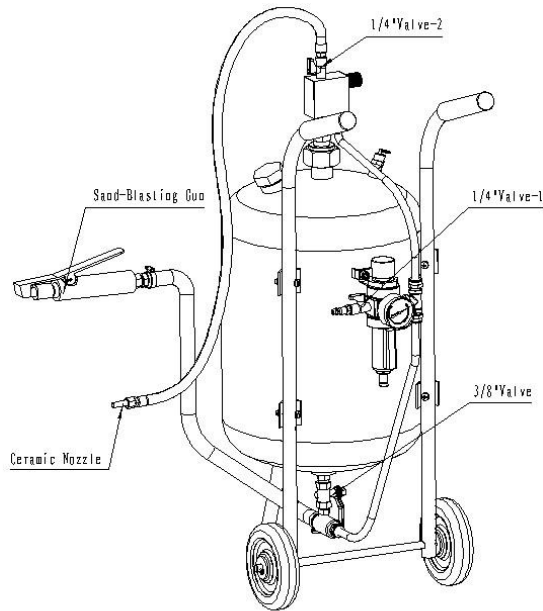

Figure 3
7. For safety, if the soda blaster will be not used at this time, shut off the air supply, turn the 1/4" Valve-1 (Figure 3) to its vertical position, and detach the air supply hose. Slowly reopen the 1/4" Valve-1 to release the trapped air pressure from storage tank. Close the 1/4" Valve-1 (Figure 3)、 the 1/4" Valve-2 (Figure 3) and the 3/8" Valve (Figure 3) to prevent moisture from being drawn into the tank.
13. Always keep the proper air pressure during operation. Please stop operation and stop the connection between the machine and air source, then release pressure from the tank if the safety valve (40) does not release while the pressure is 125psi.
3. The finished product is shown in Figure 3.
1. Attach the male coupler from the compressor to the Male Coupler (30), start compressor and open the 1/4" Valve-1 (Figure 3).
2. When the pressure is around 100 psi, Press and hold Sand-blasting Gun (11) until air is flowing through the gun.
3. With the Sand-blasting Gun open, slowly open the 3/8" Valve (Figure 3) until abrasive material begins to flow out of the Sand-blasting Gun.
4. Adjust the 3/8" Valve (Figure 3) until the desired amount of abrasive material is flowing through Sand-blasting Gun.
1. Pressing and holding the Sand-blasting Gun and turn off the 3/8" Valve (Figure 3)
1. Connect air compressor to the Male Coupler (30).
2. Start compressor and open 1/4" Valve-1 (Figure 3).
3. Turn on the 1/4" Valve-2 (Figure 3) to release the media when the pressure to exceed 100 psi.
4. Picked up the Soda Media Nozzle shown Figure 3, towards the sandblasting parts, you can adjust Media Flow Control Knob to increase or decrease the media flow rate. ( Clockwise increases, counterclockwise decreases )
Turn the 1/4" Valve-2 (Figure 3) to the closed position.
1. WARNING! Prior to performing any inspection, maintenance, or cleaning of the Pressurized Abrasive Blaster, turn off the air compressor. Turn the 1/4" Valve-1 (Figure 3) and the 1/4" Valve-2 (Figure 3) to the "OFF" position. Use the Safety Valve (40) to release any remaining air pressure in the Tank (7). Check to make sure the Pressure Gauge reads "0" PSI. Then, disconnect the compressor hose from the Male Coupler (30) of the unit.